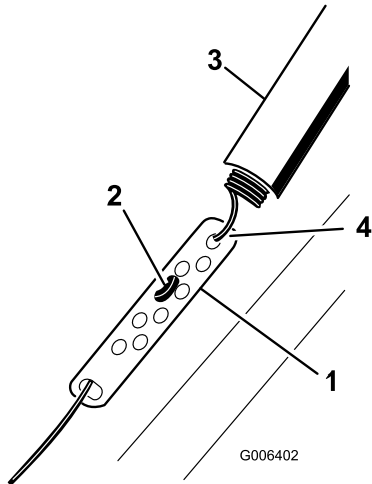

Figure 18
1. Slide up the spring cover and unhook the spring from the adjuster link (Figure 18).
2. Move the Z-fitting to a higher or lower hole on the adjuster link as needed to obtain the 2 mm to 3 mm (1/16 inch to 1/8 inch) gap between the control bar and the handle (Figure 18).